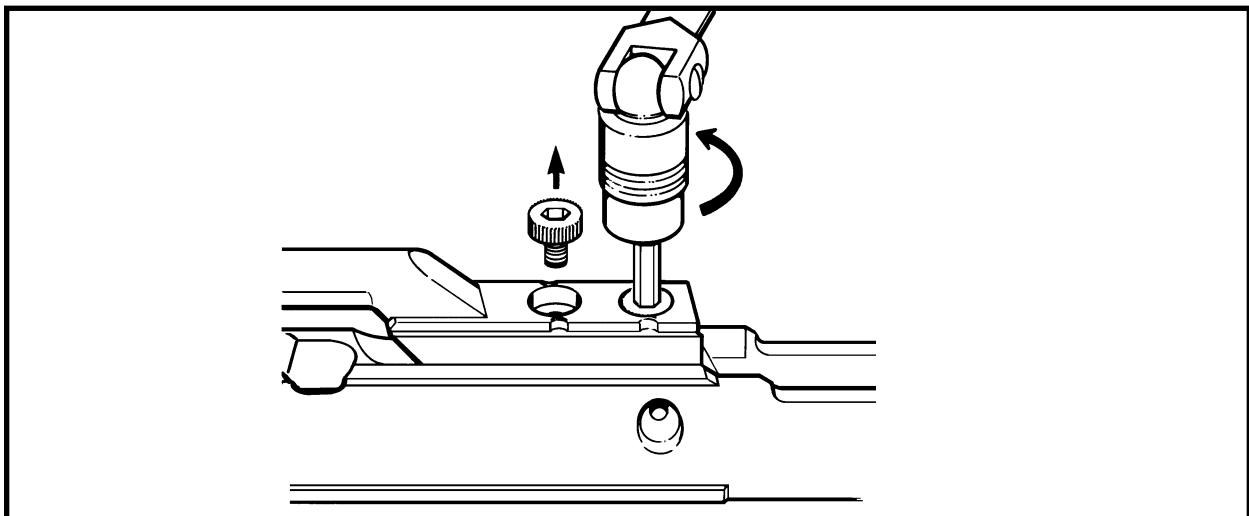

Figure 3-2-34 Removing the Bolt Carrier Key
43. **Disassembling the Bolt Carrier.** The bolt carrier is not normally disassembled, except for the replacement of defective or damaged components, since the carrier key is sealed to the carrier and the securing screws are heavily staked in position. However, should disassembly be required, unscrew the two socket head screws with a hexagonal bit socket on a socket wrench and separate the carrier key from the carrier. See Figure 3-2-34.